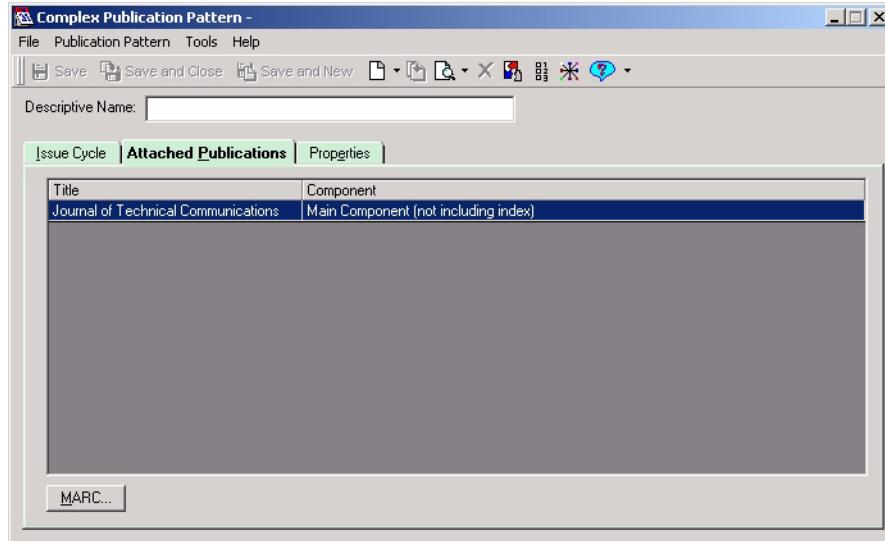
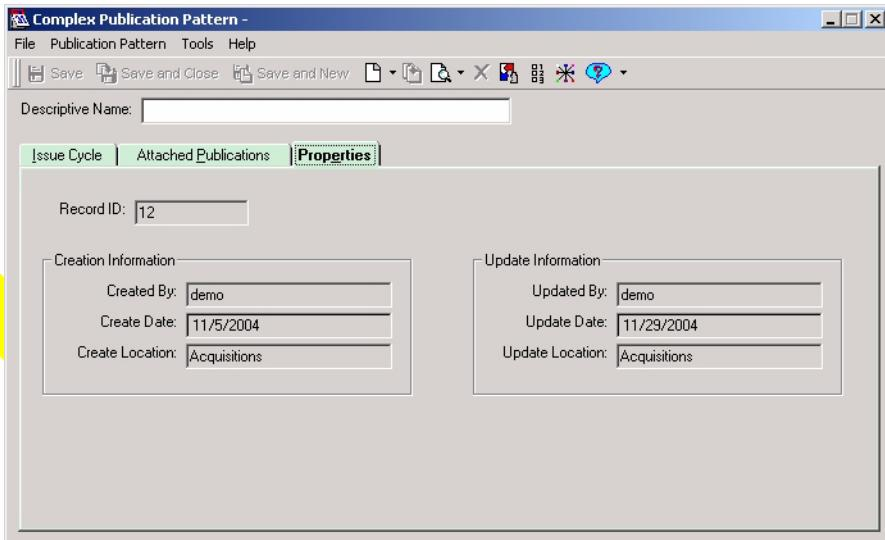

Figure 8-57. Attached Publications tab
Figure 8-58. Properties tab
*Additional information about the pattern is indicated on the **Attached Publications** tab and the **Properties** tab. See Figure 8-57 and Figure 8-58.*